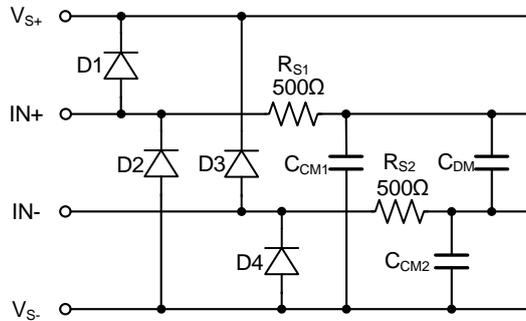

Figure 11. Input EMI Filter and Clamp Circuit
**Figure 11** shows the input EMI filter and clamp circuit. The GD30AP8554 op-amps have internal ESD protection